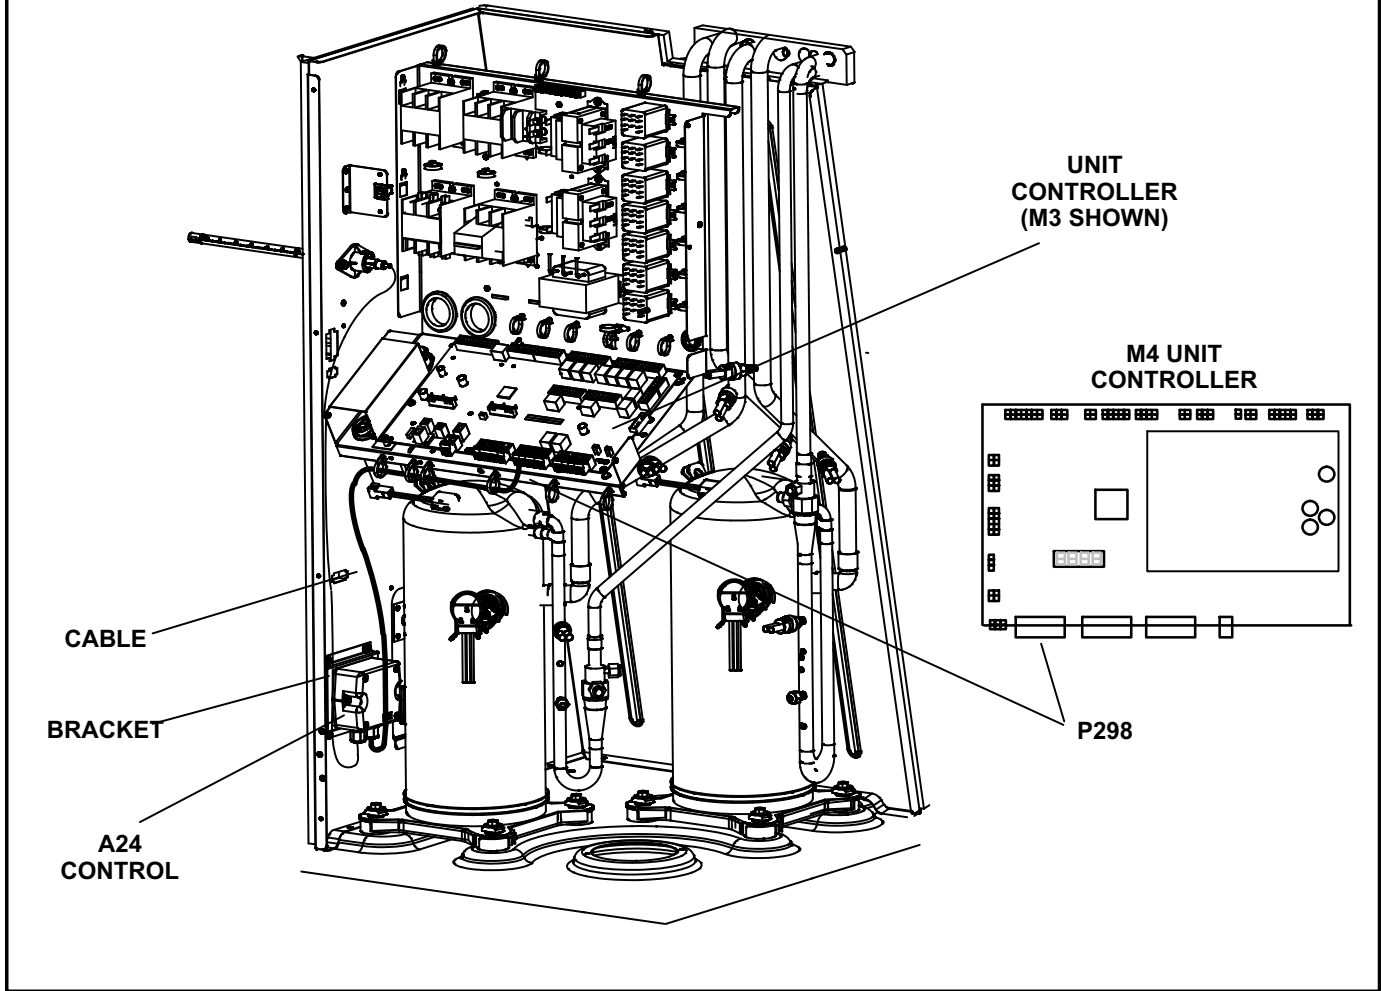
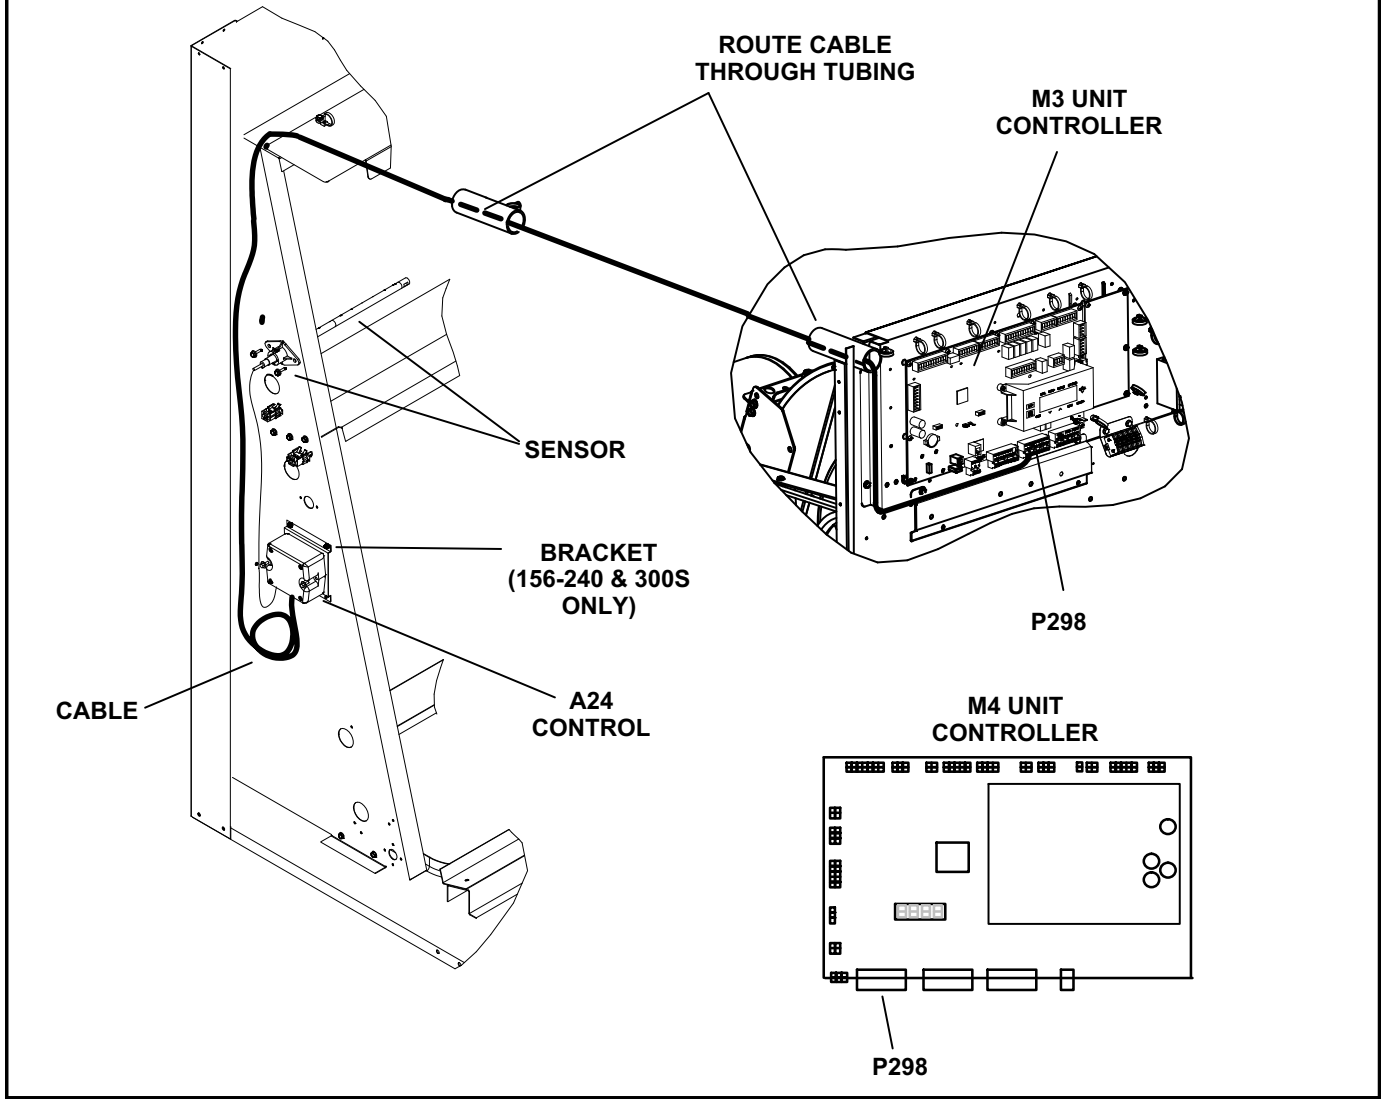

FIGURE 7
FIGURE 8
Secure the A24 control onto the bracket and secure with two 1" screws provided in kit. Install the bracket assembly into the unit and secure with 5/8" self drilling screws. See figure 7 for 092-150 units and figure 8 for 156-240 & 300S units.
Install the A24 control into the unit and secure with 1" sheet metal screws. See figure 8. The bracket and 5/8" self drilling screws are not used.
- 3- Route the cable to the Unit Controller. See figure 7 for 092-150 units and figure 8 for 156-360 units.